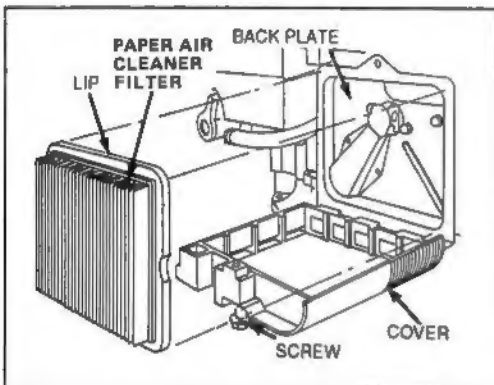

Figure 13
3. Remove paper air cleaner filter (Fig. 13) and discard.
4. Insert new paper air cleaner filter cartridge so lip touches back plate as shown in Fig. 13.